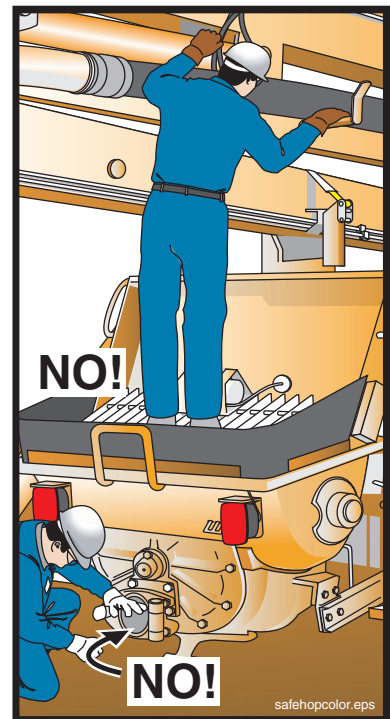

Figure 55
10.3 **⚠ WARNING** Crushing and amputation hazard! **Never put your hands or any other body part into the concrete valve.** Instead, use water jets and the supplied rake (Figure 55).
10.4 **⚠ WARNING** **Never put your hands or any other body part into the machine when the hydraulic system is operational.** If you must remove the grate to chip at hardened concrete, you must first disable the system by taking the transmission out of gear and locking the cab door, or stopping the engine, relieving pressure in the accumulator circuit (if so equipped) and securing the controls against unintended operation. Reinstall the grate before restarting the engine (Figure 55).